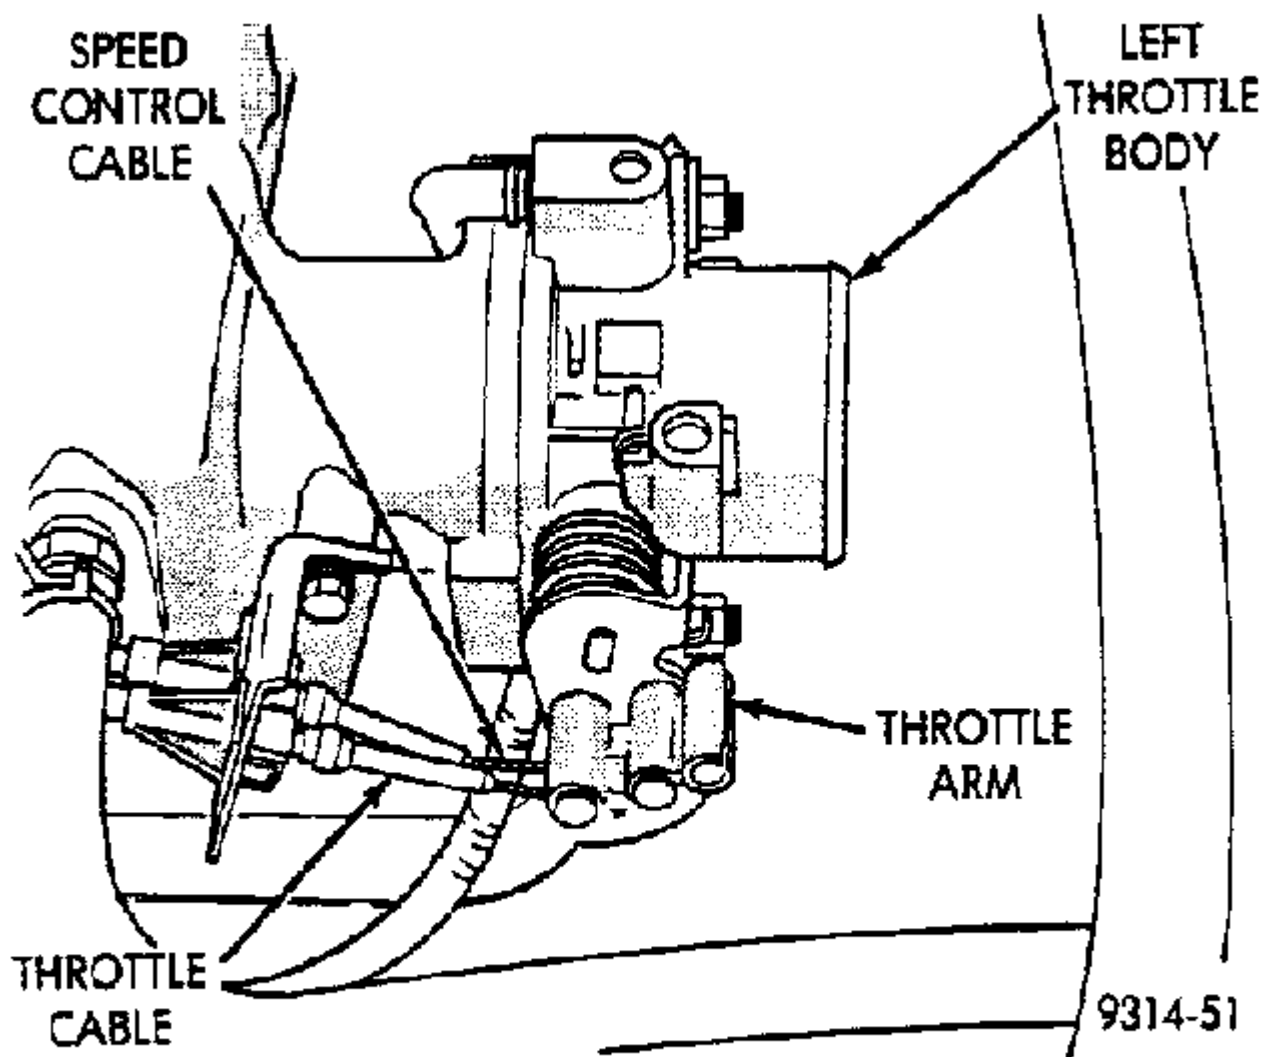

Figure 1
38. Install the throttle cable and speed control cable into the mounting bracket (Figure 1).
39. Hold the throttle lever in the wide-open position and install the throttle cable and speed control cable into the lever (Figure 1).